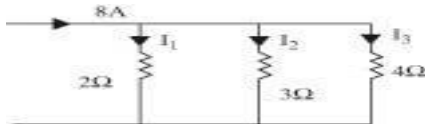

Figure1.7
2. Three resistors  $2\Omega$ ,  $3\Omega$ ,  $4\Omega$  are in parallel. How will a total current of  $8A$  is divided in the circuit shown in figure1.7.